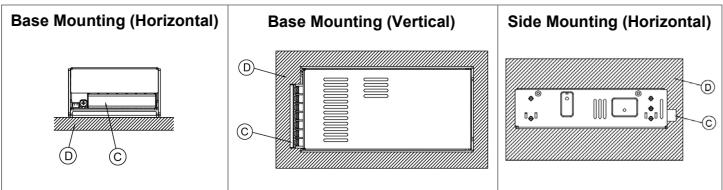
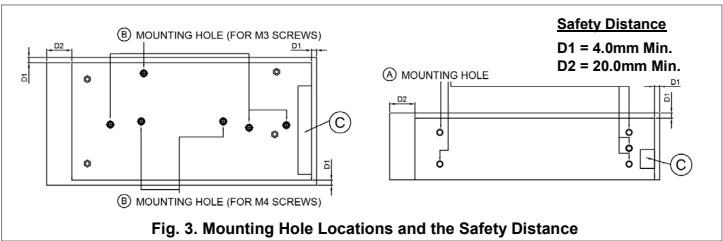

Fig. 2. Mounting Orientation
Fig. 3. Mounting Hole Locations and the Safety Distance
- For safety reasons, please ensure the mounted device is kept at $\geq 4\text{mm}$ safety distance at all sides from other components and equipments. In addition, to ensure sufficient convection cooling, always maintain a distance of $\geq 20\text{mm}$ from ventilated surfaces while the device is in operation (Refer to Fig. 3).
- ① Input & Output terminal block connector
- ② DC voltage adjustment potentiometer
- ③ DC OK control LED (Green)
- ④ Remote ON/OFF function connector (Option)
- Ⓐ Side Mounting: Fig. 2 and Fig. 3 show the mounting hole locations for power supply assembly onto a metal mounting surface. The power supply shall be mounted on minimum of 4 mounting holes using M4 screw of maximum 4mm length (Refer to Fig. 5). This is to maintain a safety distance between the screw and internal components.
- Ⓑ Base Mounting: Fig. 2 and Fig. 3 show the mounting hole locations for power supply assembly onto a metal mounting surface. The power supply shall be mounted on minimum of 4 mounting holes using M3 or 2 mounting holes using M4 screw of maximum 4mm length (Refer to Fig. 5). This is to maintain a safety distance between the screw and internal components.
- Ⓒ Fig. 2: Connector
- Ⓓ Fig. 2: This surface belongs to customer's end system or panel where the device is mounted.